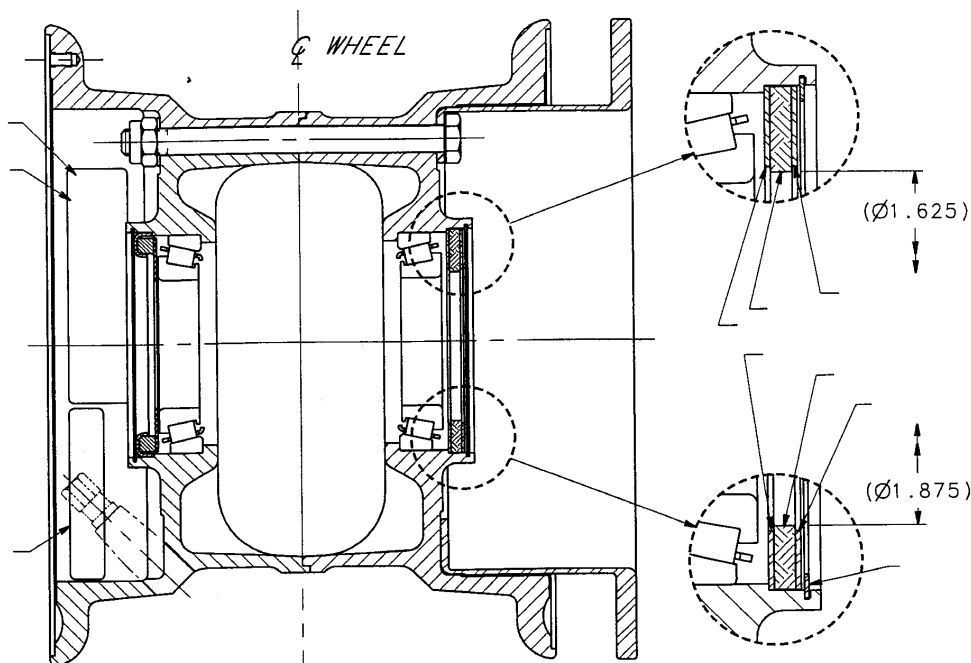

Figure 1 - Converting 40-97E Wheel Assembly to 40-97F Configuration
1. The following components must be removed from the existing P/N 40-97E Wheel Assembly and discarded: (See Figure 1 for location of components)
3. Install Grease Seal Rings P/N 153-01600 and Grease Seal Felt P/N 154-01600 on Inboard Wheel Hub as shown in Figure 1 and secure with Retaining Ring P/N 155-00100.
4. Install new nameplate P/N 166-19700 on Outboard Wheel Half as shown in Figure 1.